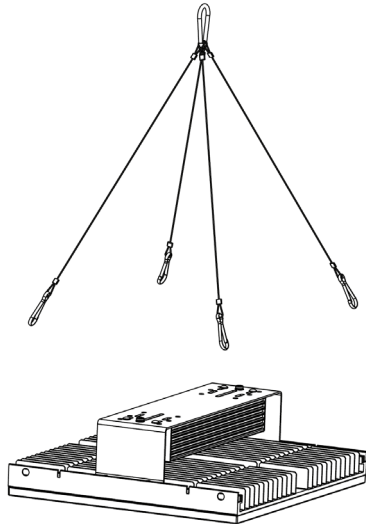

Figure 2
Step 1: Fasten the four wire slings to the mounting holds on the fixture. Figure 2